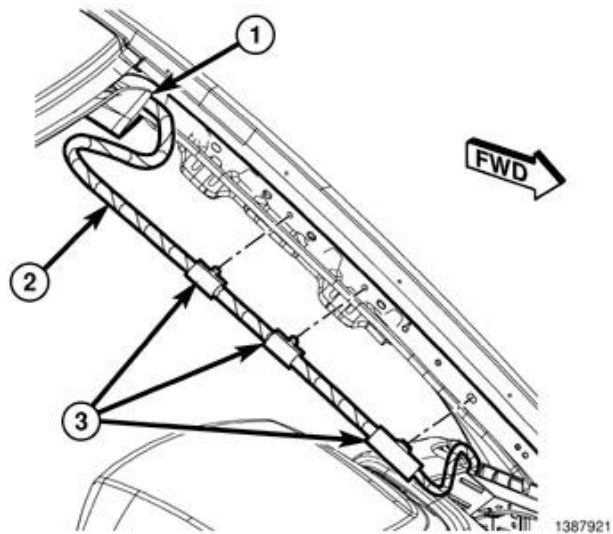

Figure 70 – Headliner Harness
24. As necessary, release the headliner wiring harness clips (3) from the A-pillar to allow enough wiring harness slack for lowering the headliner (Figure 70).
44. Reattach any headliner wiring harness clips (3) removed from the A-pillar to allow slack while lowering headliner (Figure 70).